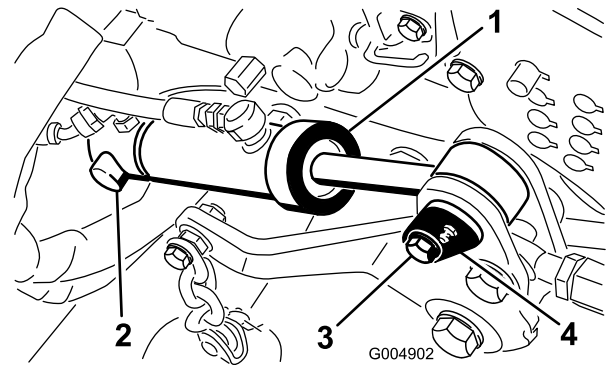

Figure 92
36. Install the rear of the deck lift cylinder onto the pivot pin and secure with the retaining ring (Figure 92).
37. Secure the front of the lift cylinder to the mower frame with the cylinder pin and screw (Figure 92).